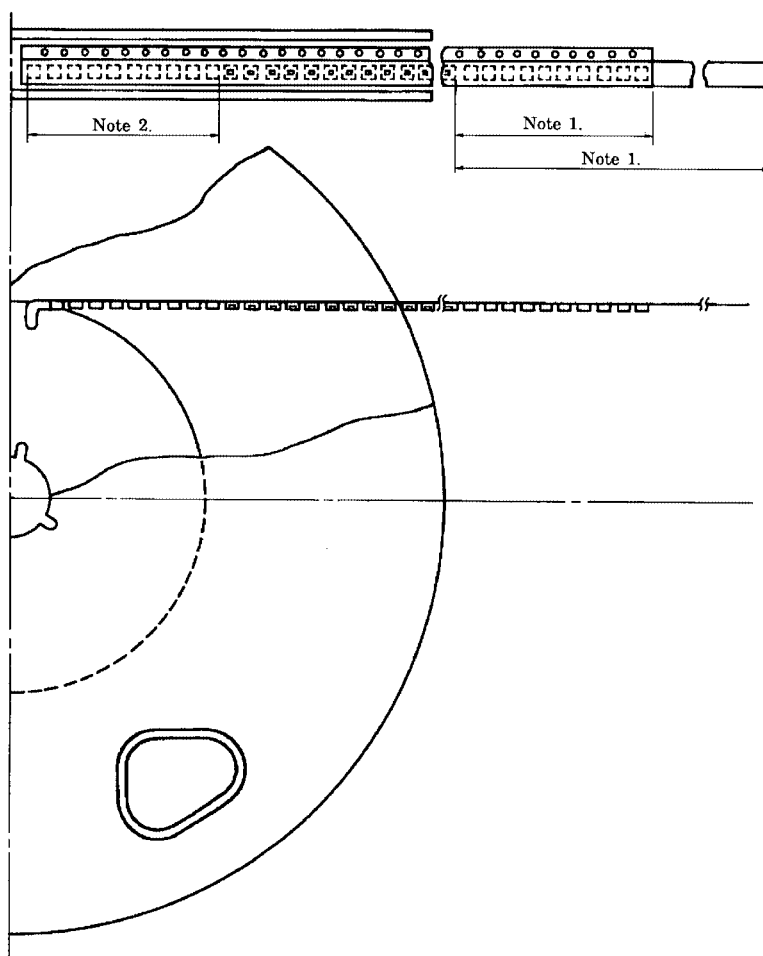

Figure 4
5. The leader and trailer portion of the tape shall be as shown in Figure 4.